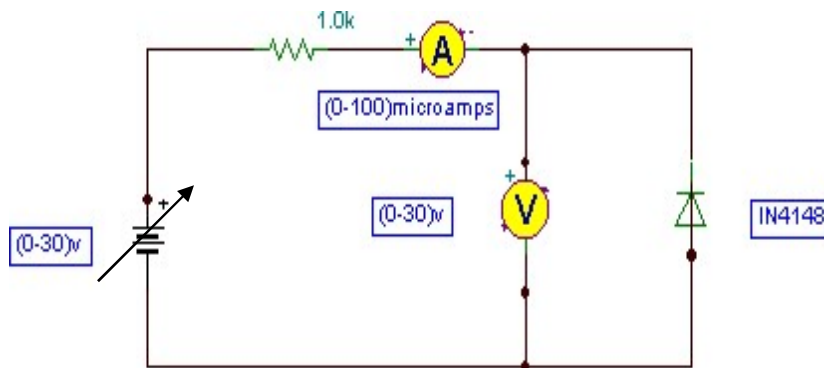

Figure. 2
1. Connect the circuit as per the circuit diagram shown in figure:2
4. Plot a graph taking the voltage (V) on X-axis and current (I) on Y-axis.